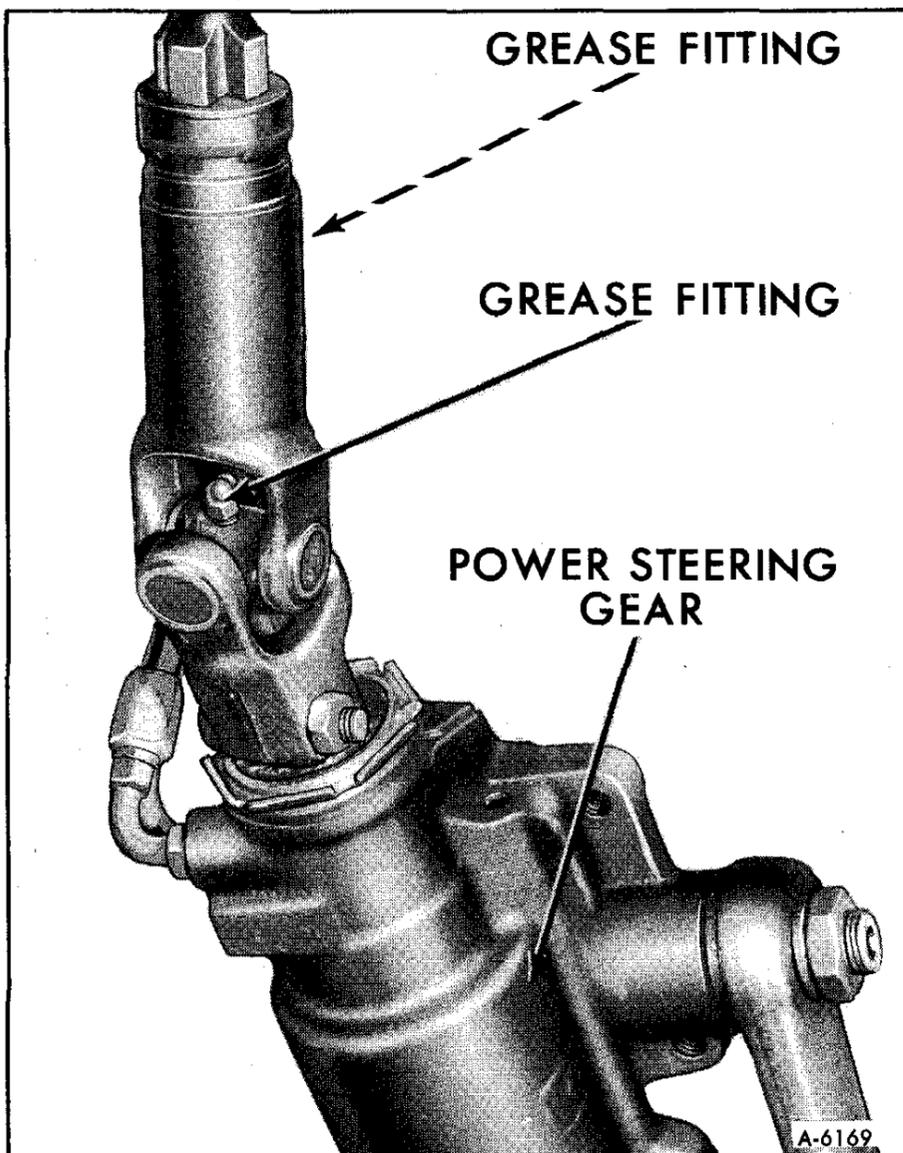

Figure 3—Lower Steering Shaft Grease Fittings
4. Lubricate universal joint at grease fitting (figure 3), using a Lithium-soap base grease having extreme pressure properties meeting GM 6031-M, or equivalent.